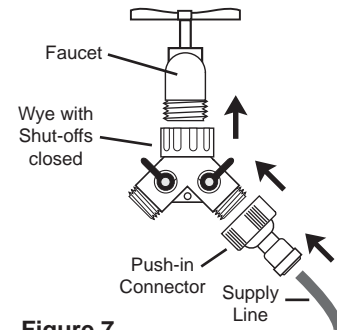

Figure 7
9) Attach the Wye to the outdoor faucet and screw the Push-in Connector to one side of the Wye (refer to Figure 7). Close the Wye Shut-offs.
10) Cut the Supply Line to length and insert the free end of the Supply Line into the Push-in Connector (refer to Figure 7). Make sure it is pushed in all the way.